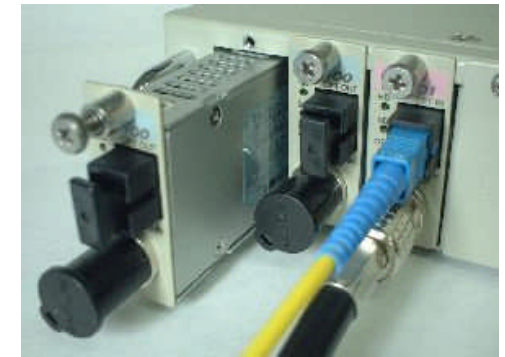

Fig.2 Plug-in module installation
1. Remove the mounted blank panels(1) covering the mounting slots.
2. Insert the plug-in module into the mounting slot by grabbing hold of its captive screw, as shown in Fig.2.